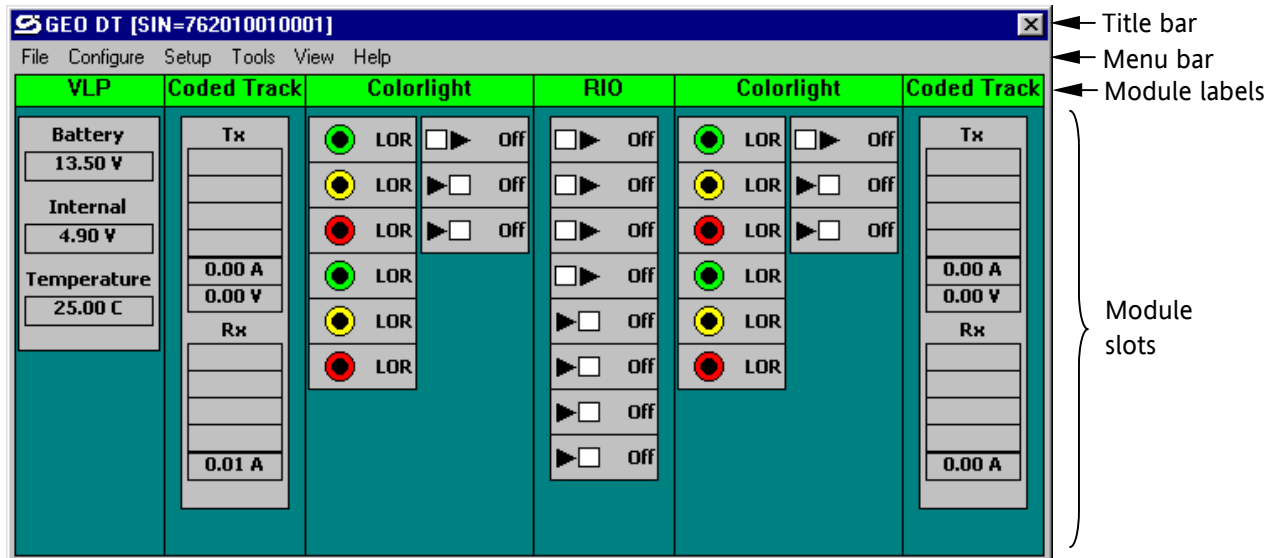
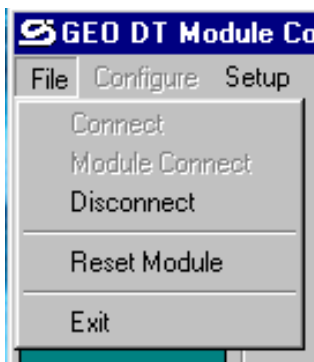
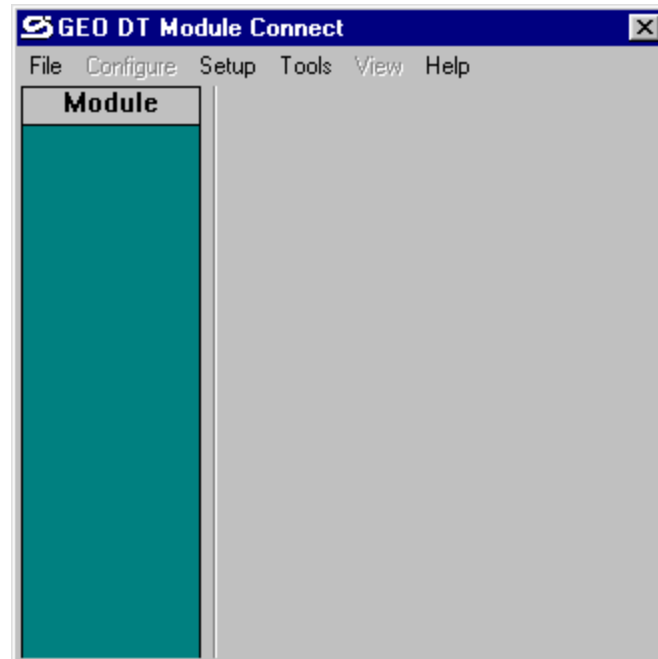
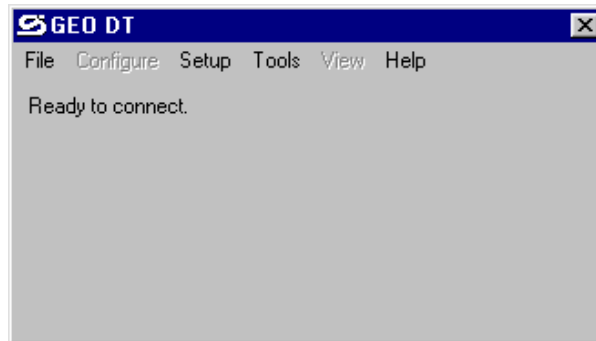

Figure 3-3
Figure 3-4
Figure 3-5
Figure 3-16
- When the data download is complete, a module assignment display similar to the one shown in figure 3-3 appears on the screen. The module assignment display is a graphic representation of the modules installed in the GEO™ wayside unit and indicates their corresponding slots in the card cage. The number of slots displayed and the module assignments will vary depending on GEO™ wayside equipment configuration. Each module is identified by a label.
When the GDT program is launched, it immediately attempts to communicate with the GEO™ unit. Once the GDT has established communication with the GEO™ wayside unit, the **Connect** menu option is disabled (see figure 3-4). If communication should be lost, the **Connect** option becomes enabled, and the option can be clicked on to reestablish the connection between the GEO™ unit and the GDT.
The Module Connect function allows direct communication with an individual GEO™ module. When the DT is connected to an individual GEO™ module through its serial DT port, the GDT can communicate with that I/O module regardless of whether a controller module (CPU/CPU2) is installed in the GEO™ unit. This allows the user to install module operating software, view the module event log, reset the module, set the module verbosity level, etc. Clicking on the **Module Connect** option from the **File** menu presents the display of figure 3-5.
Once the GDT has established communication with a GEO™ module, the **Module Connect** menu option is disabled (similar to the **Connect** function of figure 3-4). If communication should be lost, the **Module Connect** and the **Connect** options become enabled, and the **Module Connect** option can be clicked on to reestablish the connection between the GDT and an individual GEO™ module (communication between the GDT and the GEO™ unit can be made by connecting the DT to the CPU/CPU2 DT serial port and clicking on the **Connect** option).
The Title Bar for the **Module Connect** display (refer to figure 3-5) identifies the GEO™ Diagnostic Terminal utility, but does not identify the SIN of the GEO™ unit the module is installed in.
The Menu Bar for the **Module Connect** display (compare figure 3-5 to figure 3-3) provides the same pull-down menus as the **Connect** function display (refer to paragraphs 3.1 through 3.6 as indicated in table 3-1 for descriptions of the menu options), except that the “Configure” option and the “View” option are disabled.
The Module Slot area for the **Module Connect** display (refer to figure 3-5) only identifies that a module is being communicated with, and does not display any status indicators for the slot. Right-clicking on the module label displays the module menu options: Configuration Parameters, Operating Parameters, Event History, Reset, Set Verbosity, Card Information (same as for the **Connect** function display), except that the “Configuration Parameters”, “Operating parameters”, and “Card information” options are disabled). Refer to paragraphs 3.7.1.1 through 3.7.1.6 for descriptions of the menu options.
When GDT communication has been established (either with a GEO™ unit or with an individual GEO™ module), the **Disconnect** function becomes enabled on the options of the File menu on the GDT screen (see figure 3-4) and can be clicked on to break the connection between the GDT and the GEO™ unit or an individual module. The **Disconnect** function is disabled once communication is lost, and the module assignment display of figure 3-3 is replaced with the screen of figure 3-16.